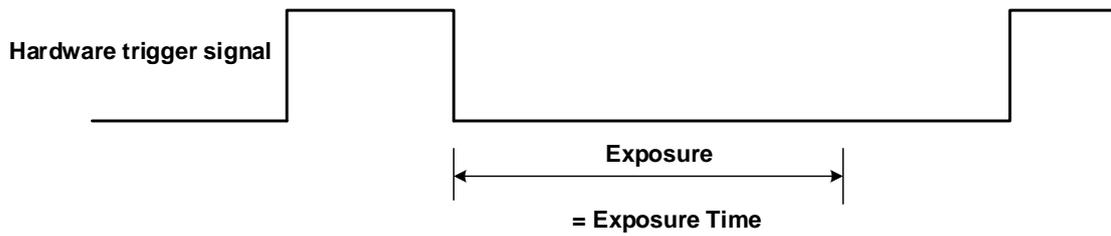

Figure 8-29 The sequence diagram in falling edge trigger of Timed exposure mode
- If falling edge triggering is enabled, exposure starts when the trigger signal falls and continue until the exposure time has expired, as shown in Figure 8-29